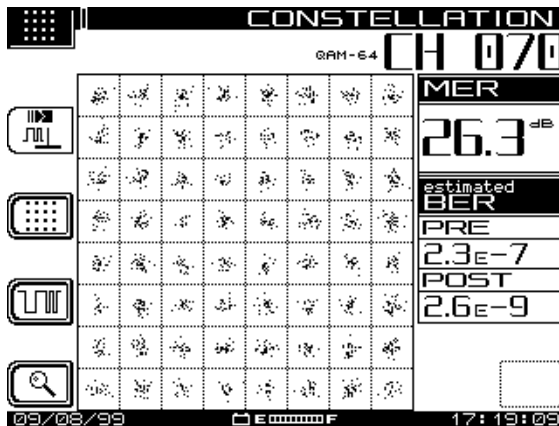

Fig. 9-12 Thermal Noise Impairment
Figures 9-12 through 9-14 show constellation displays depicting three common impairments – thermal (system) noise, phase noise, and coherent interference. Gain compression and I/Q imbalance (not shown here) are examples of two other impairment types with specific graphic signatures.
**Thermal noise impairments** cause the dots on the graph to spread out toward the grid lines (decision boundaries), indicating significant errors (see Fig. 9-12). The zoom feature would show more detail about the position of these dots in relation to the grid lines.